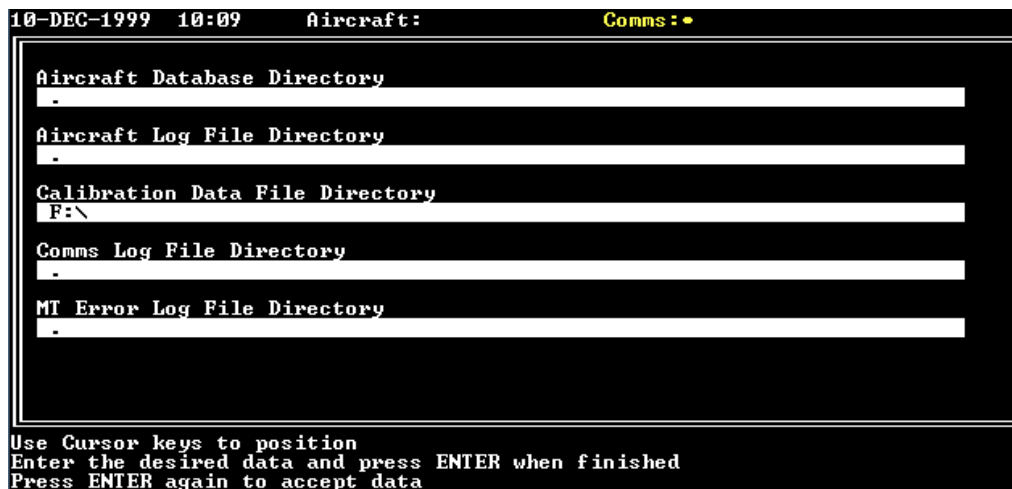

Figure 1.14 - Default Directories Screen
- (1) The MT will now show the Default Directories Screen for MT830 Software operation with the Type 830 range of ANCU's (Ref. figure 1.14). Each directory will be set to the default. The default is shown with a single dot. The default directory will be the directory where you have stored the MT program files. This should be C:\MT830.
NOTE: USERS OF LAPTOP PCs AS MAINTENANCE TERMINALS MUST IDENTIFY THE CORRECT DRIVE LETTER FOR THE PCMCIA or USB DRIVE AND SUBSTITUTE "F" IN FIG. 1.14 ABOVE WITH THE CORRECT DRIVE LETTER.